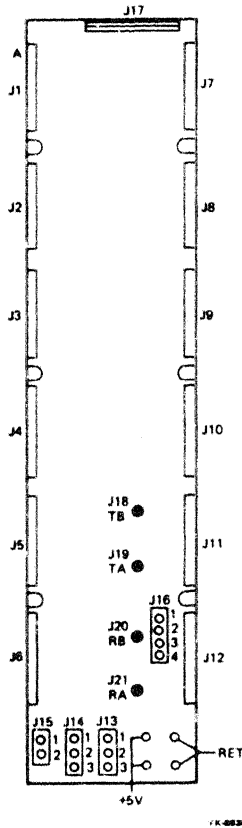

Figure 2-10 CI780 Backplane Connectors
3. Place a P-clamp over each cable, just behind the pin plug on the end, and carefully insert the plug into the proper jack on the backplane (Figure 2-10). Gradually push the cable plug into the jack until it is secured by the detent lock.
- a. Transmit B (TB) to J18 on the backplane.
- b. Transmit A (TA) to J19 on the backplane.
- c. Receive B (RB) to J20 on the backplane.
- d. Receive A (RA) to J21 on the backplane.